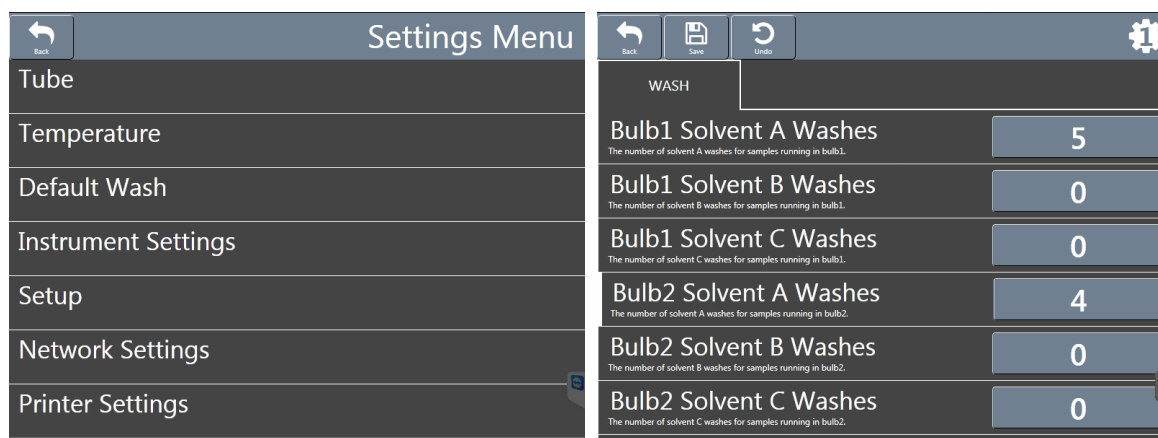

Figure 13 — Settings Menu and Wash Screen
3. Click **Default Wash**. The **Wash** screen opens. See Figure 13.